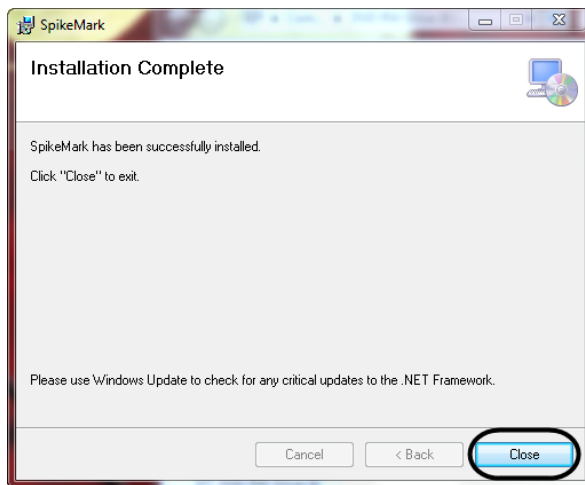

Figure 7
9. In the **Installation Complete** window click **Close** (Figure 7).